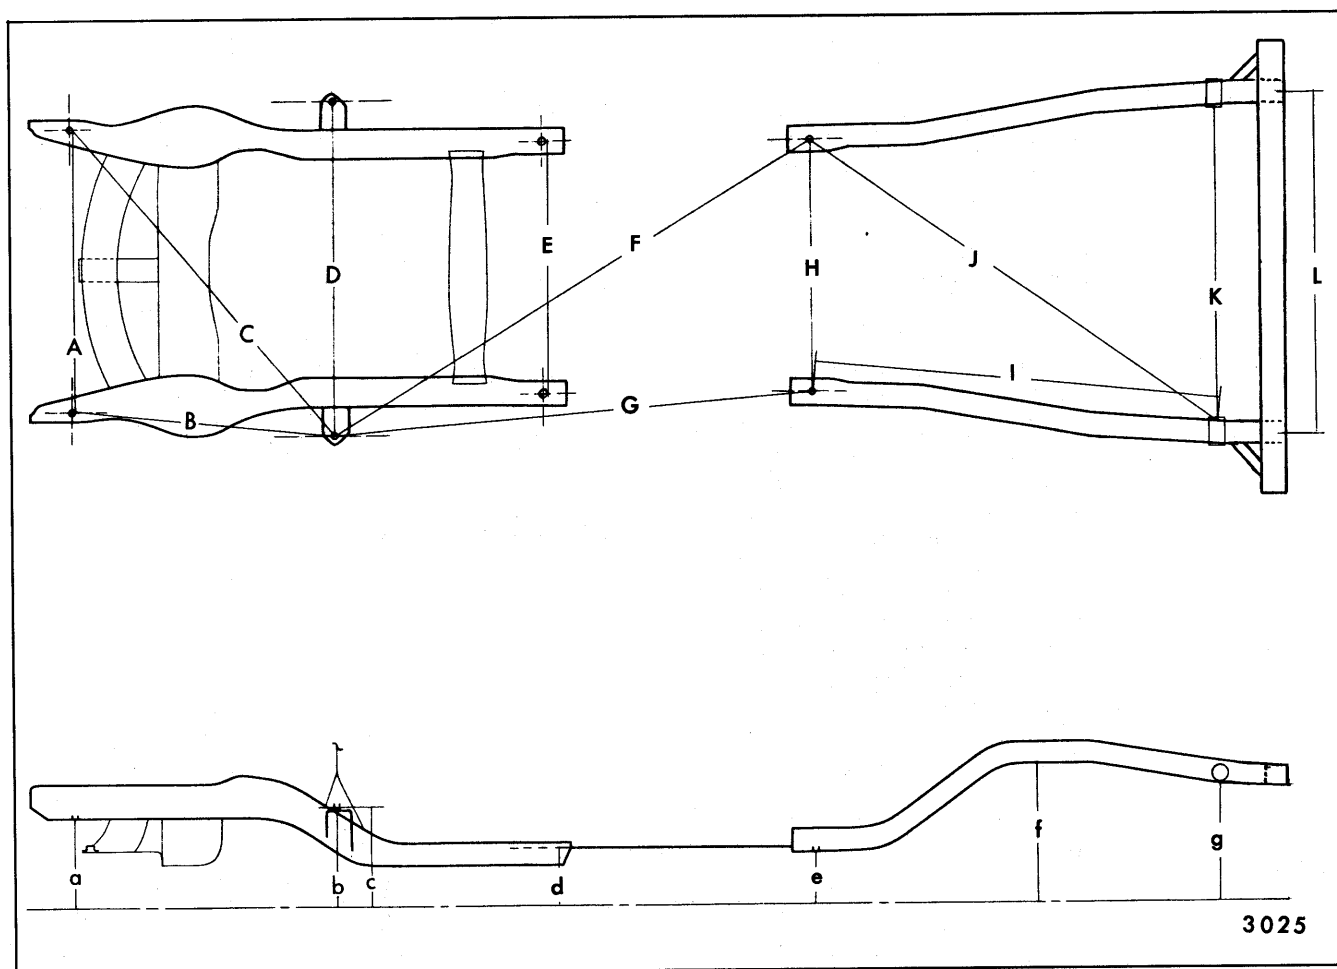

Fig. 3-6—Horizontal & Vertical Checking Dimensions (Chevy II & Acadian "X" Bodies)
**Underbody Alignment Reference Point Dimensions—(Fig. 3-6 for Chevy II and Acadian "X" Bodies)
Chevy II & Acadian "X" Bodies (Fig. 3-6)**
Vertical Dimensions— Chevy II & Acadian "X" Bodies (Fig. 3-6)